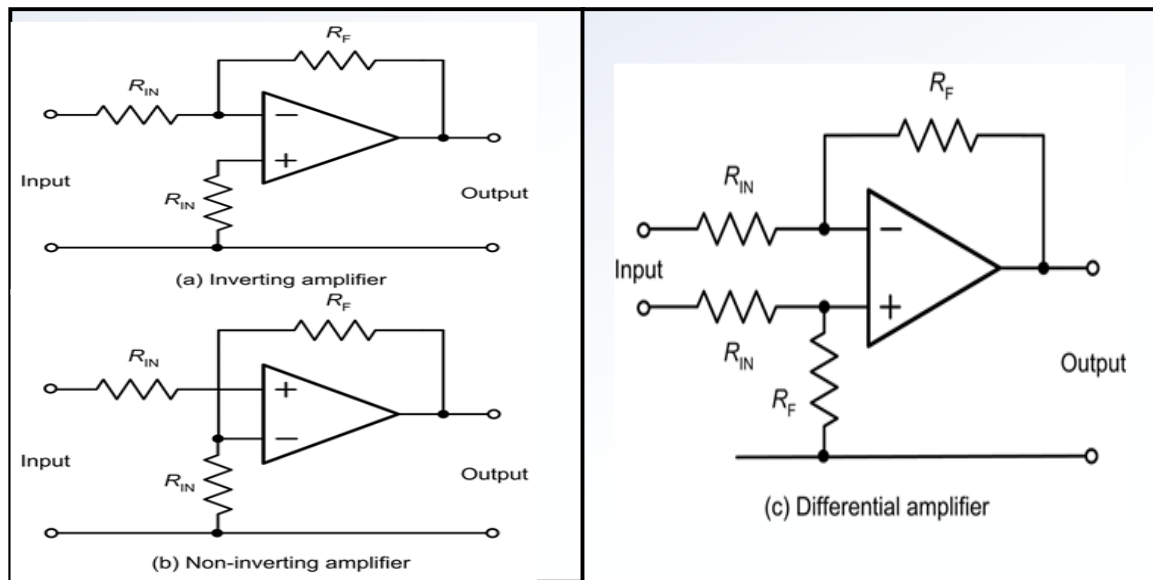

Figure 1.36 The three basic configurations for operational voltage amplifiers
- The three basic configurations for operational voltage amplifiers, together with the expressions for their voltage gain, are shown in Fig. 1.36.